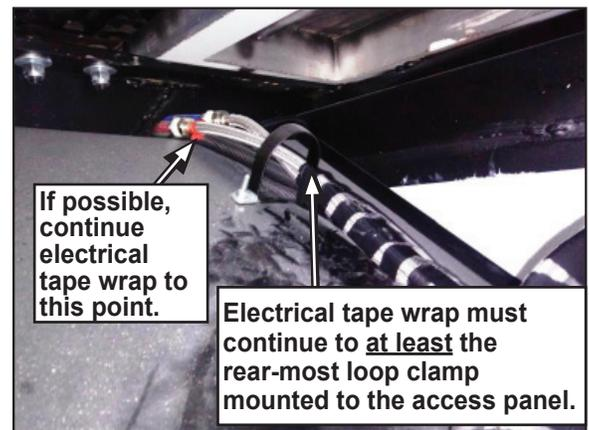

Figure 11
14. Continue running the spiral wrap along the entire length of harness from the raceway to, at minimum, the rear-most loop clamp mounted to the access panel. If possible, continue the wrap to the location where the wire harness/plumbing bundle exits the chassis frame rail. See Figure 11.